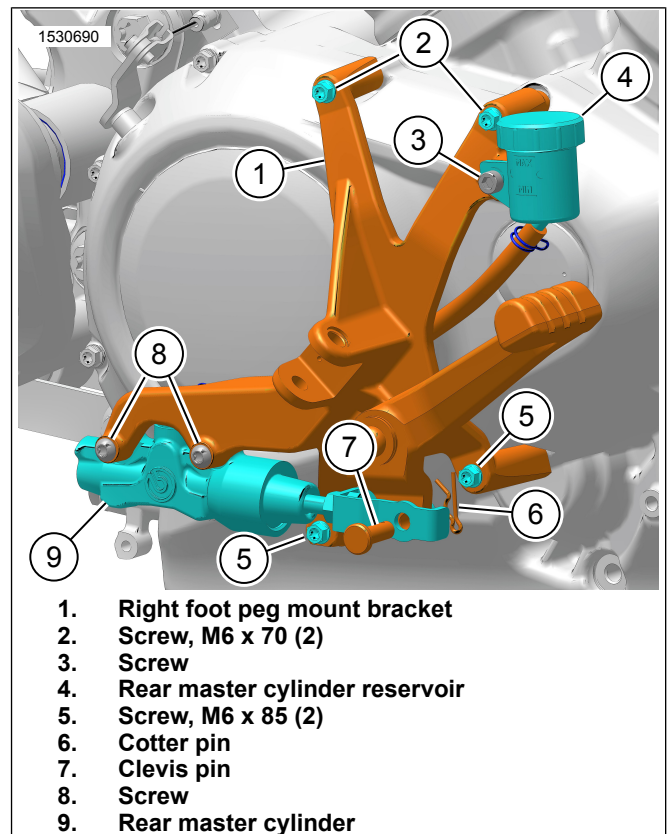

Figure 8. Right Foot Peg Mount Bracket
1. See Figure 8. Install rear master cylinder and reservoir.
- a. Install rear master cylinder (9).
- b. Install screws (8). Tighten.